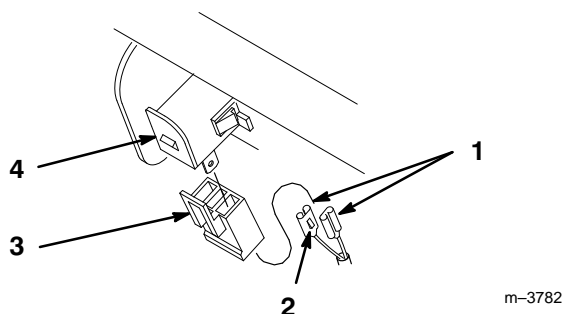

Figure 4
3. Insert terminals into plastic plug until the clips snap into position (Fig. 4). If they do not snap turn around.
4. Push plug onto switch so latch interlock (Fig. 4).